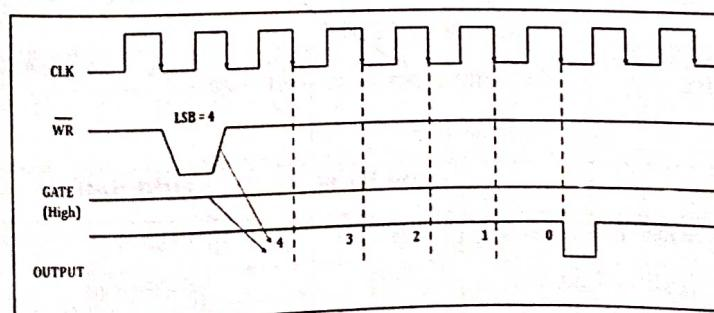

Figure 4.10: Mode 4 Timing Diagram.
- Figure 4.10 shows the Mode 4 Timing Diagram.